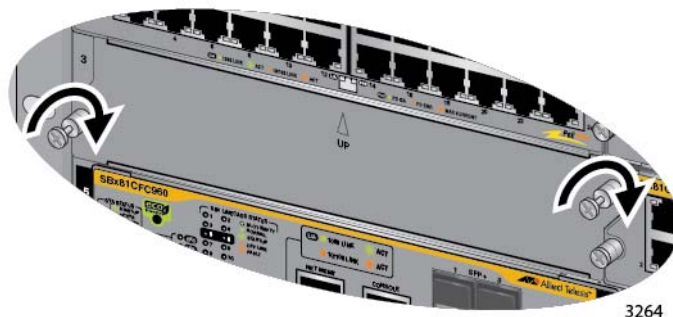

Figure 90. Tightening the Thumbscrews on a Blank Slot Cover
2. Finger tighten the two thumbscrews to attach the blank panel to the chassis, as shown in Figure 90.